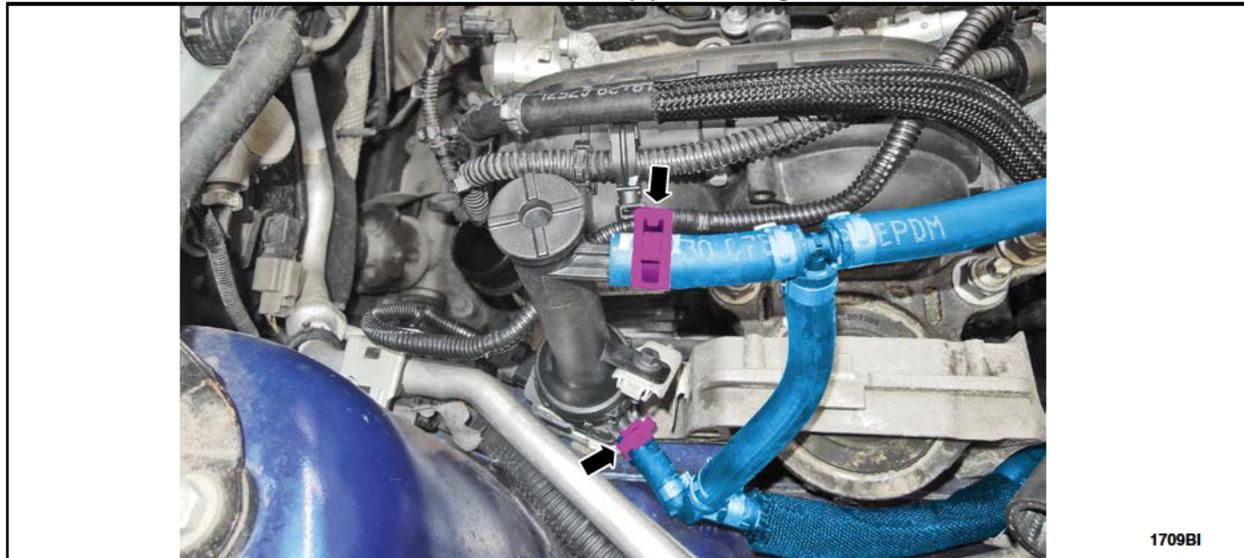

FIGURE J4
4. Install the *new* coolant hoses to the coolant stand-pipe. See Figure J4.